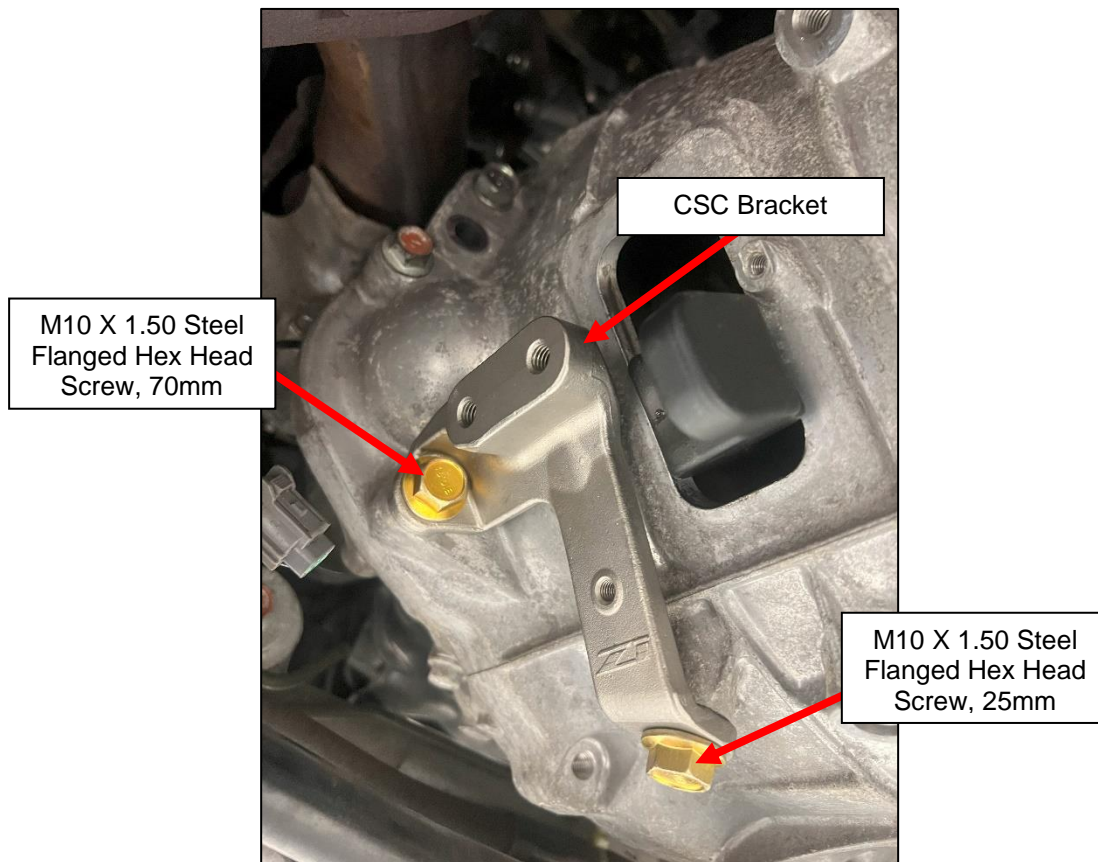

Figure 21
43. With the Transmission reinstalled, locate the Clutch Slave Cylinder (CSC) Bracket, (1) one M10 X 1.50 Steel Flanged Hex Head Screw, 25mm Long, and (1) one M10 X 1.50 Steel Flanged Hex Head Screw, 70mm Long. Install the CSC Bracket onto the Transmission using the 25mm M10 x 1.50 Flanged Hex Head Screw on the bottom of the CSC Bracket, and the 70mm M10 x 1.50 Flanged Hex Head Screw on the upper mounting point of the CSC Bracket. *Figure 21*. Torque both the 25mm Screw and 70mm Screw to 34 ft-lbs. The 70mm Screw replaces the OEM starter bolt left out in *Step 42*.